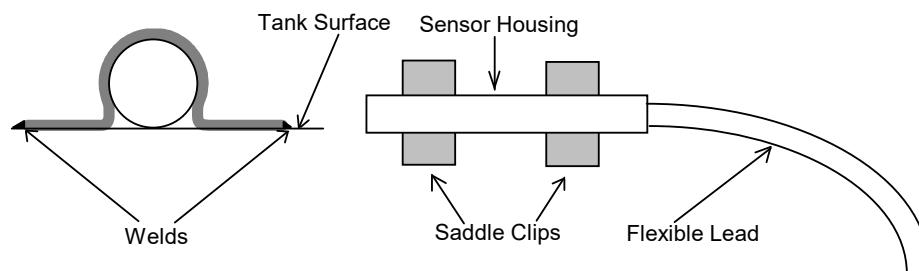

Fig. 1
- i) The sensor housing may be fixed to the outer surface of the tank by means of stainless steel saddle clips (see Fig 1 below). The saddle clips should be of a size to allow the sensor housing to slide into position, after the clips have been welded to the tank, without using undue force, and then be held firmly in position by the use of a 'setting' high thermal conductivity silicone sealant.